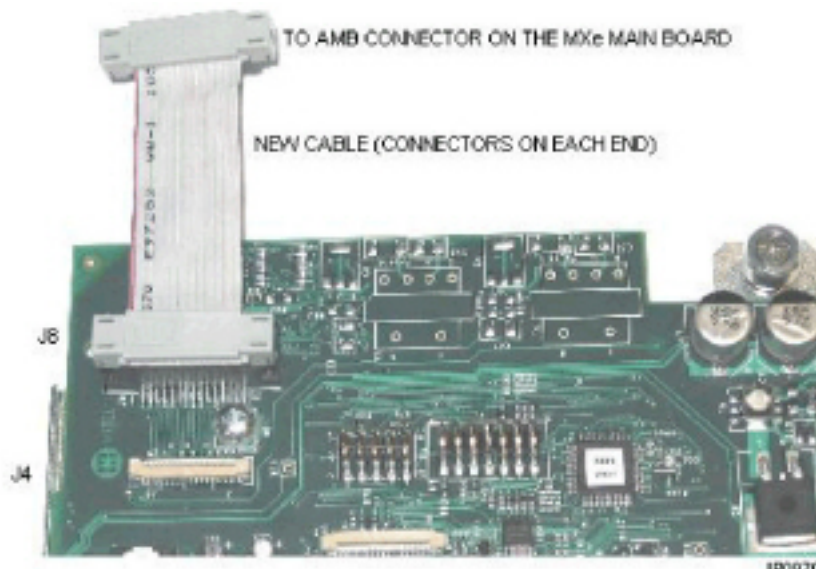

Figure 7.9: AMB with new cable for MxIII/MxIII-L Controller
1. Remove the narrow flex cable on the AMB (J4) by flipping up the clip on the connectors at each end of the cable (prior to 3300 R7.1 version) or remove the ribbon cable on the AMB (J8) (see Figure 7.9).